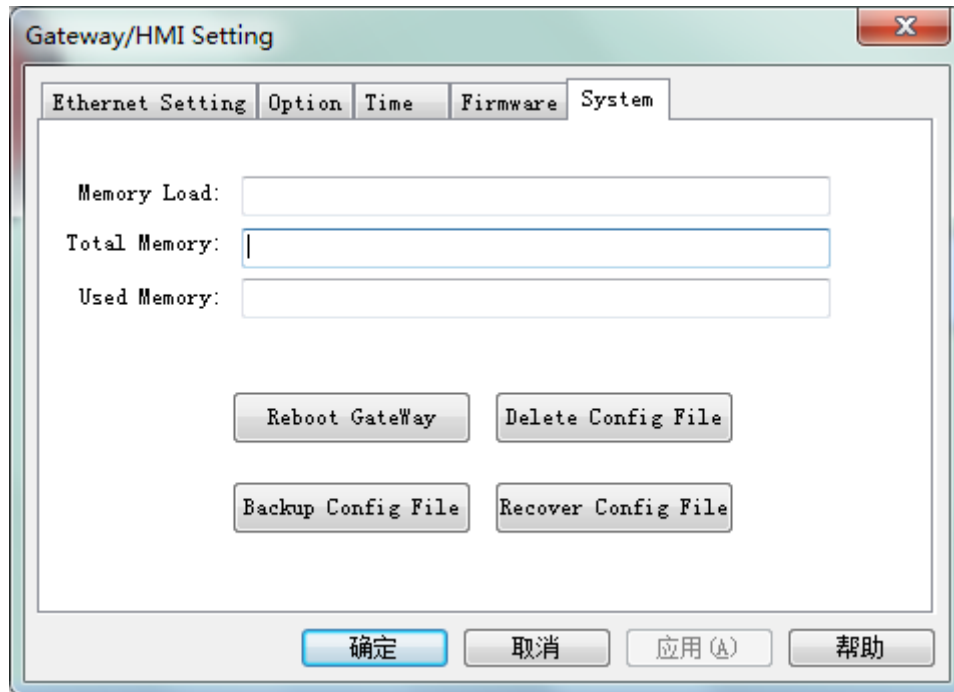

Figure 4-13-6 System
**System:** the system can see the current usage of the hardware gateway memory, and the gateway can be restarted remotely. Delete configuration is generally used in engineering when updating gateway, users typically use less, just click on the restore configuration is not recommended, you can restore the deleted user project gateway in the project, as shown in figure 4-13-6.